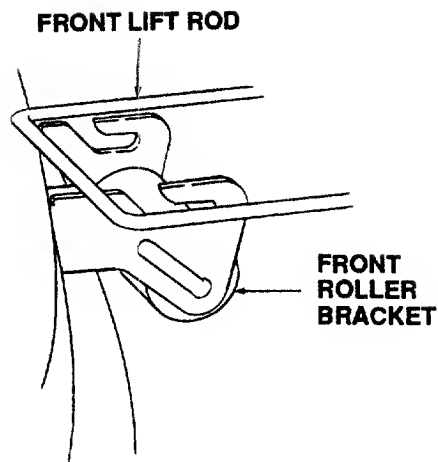

Figure 42
10. Raise the tractor implement lift handle to its highest setting. Slide the mower deck forward, so the front lift rod rests to the rear of, and free of, the front roller bracket slots of the deck (Refer to Figure 42).